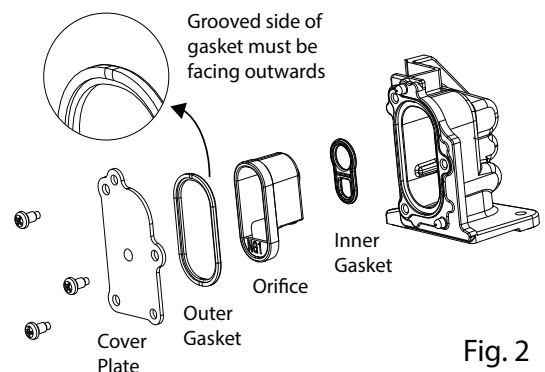

Fig. 2
6. Remove the plastic orifice from the housing (Fig. 2).
7. Install the new inner and outer gasket on the orifice (Fig. 2).
**Red Orifice: G31, G30 (LP)**